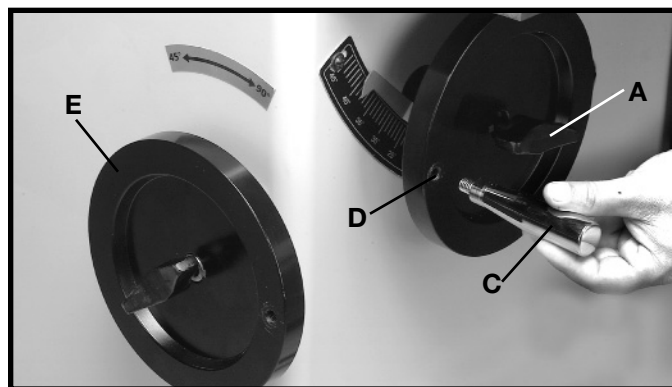

Fig. 5
1. Tighten lock knob (A) Fig. 5 on the blade height adjusting wheel.
2. Thread handle (C) Fig. 5, into the tapped hole (D), and tighten securely.
3. Repeat this process for attaching the handle for the blade tilting operating wheel (E) Fig. 5.